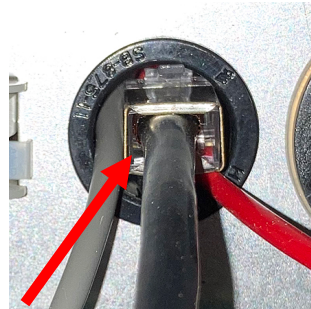

Figure 20
- from the inside of the FIB box through the Heico bushing in the rear of the FIB box (see Figure 20).